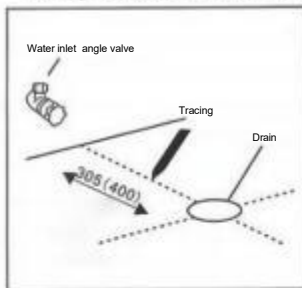

figure 2
- Construction and installation instructions (see Figure 2, Figure 3, and Figure 4)